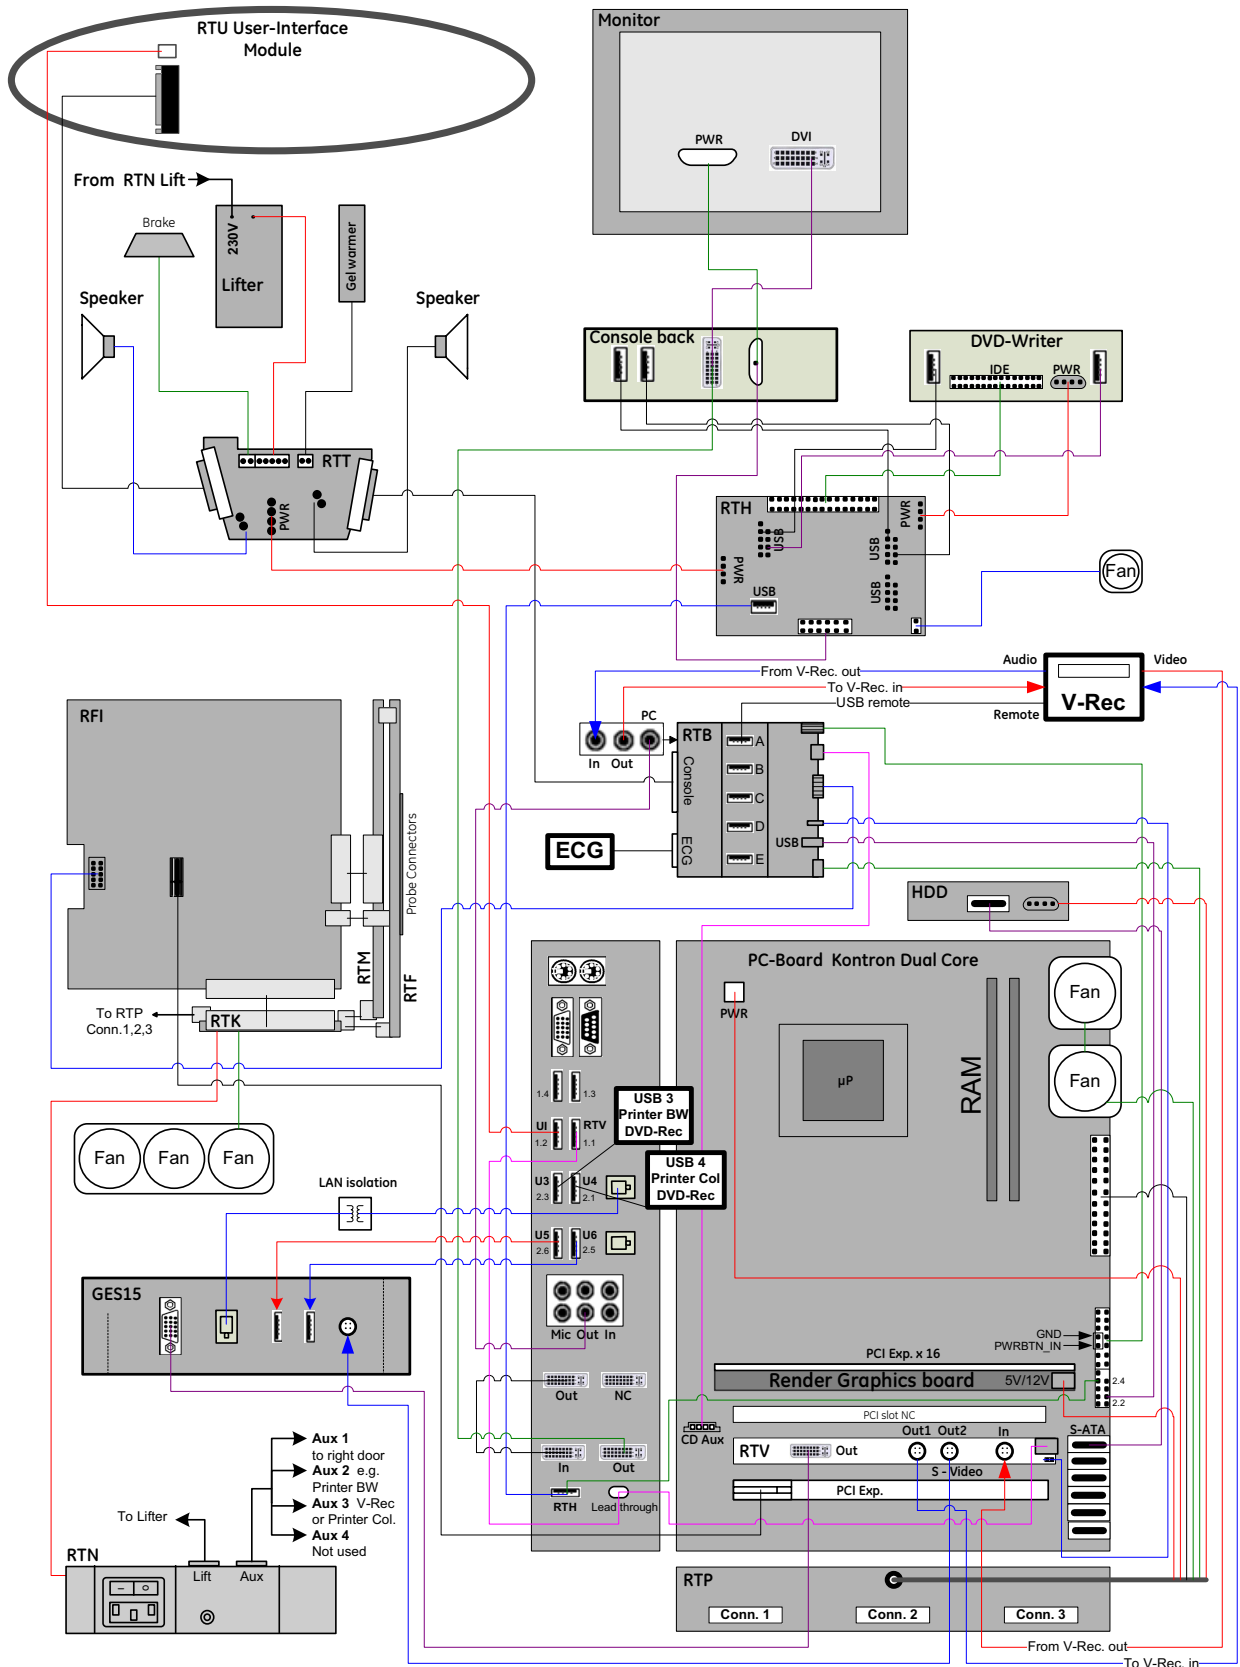

Figure 5-20 Voluson E8 (BT10): Internal I/O - KONTRON Dual-core PC-Motherboard
- “Kontron Dual-core” PC Motherboard is installed, see: Figure 5-20 on page 5-44.